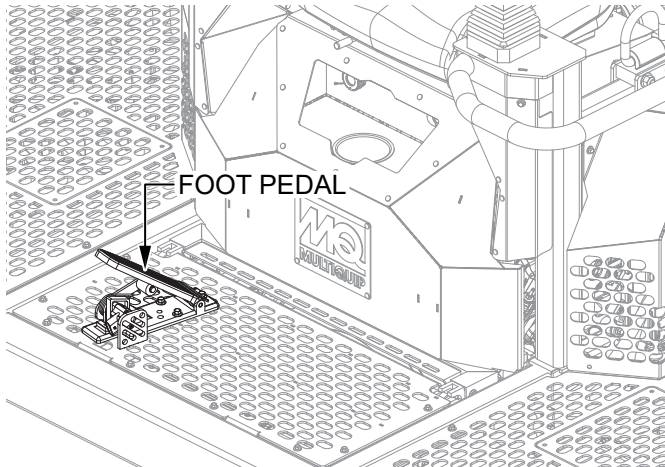

Figure 42. Foot Pedal
The **foot pedal** (Figure 42) controls rotor speed. The position of the foot pedal determines the rotational speed of the rotors. Slow rotor speed is obtained by slightly depressing the foot pedal. Maximum rotor speed is obtained by fully depressing the foot pedal.
2. Depress the foot pedal (Figure 42) to raise the rotor speed to the set speed.